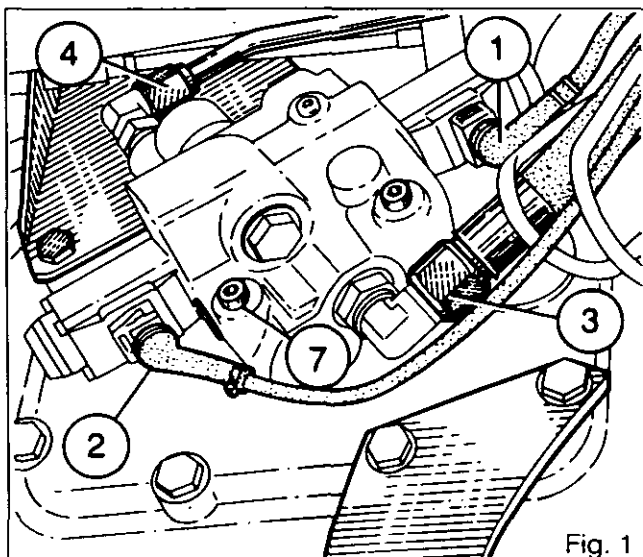
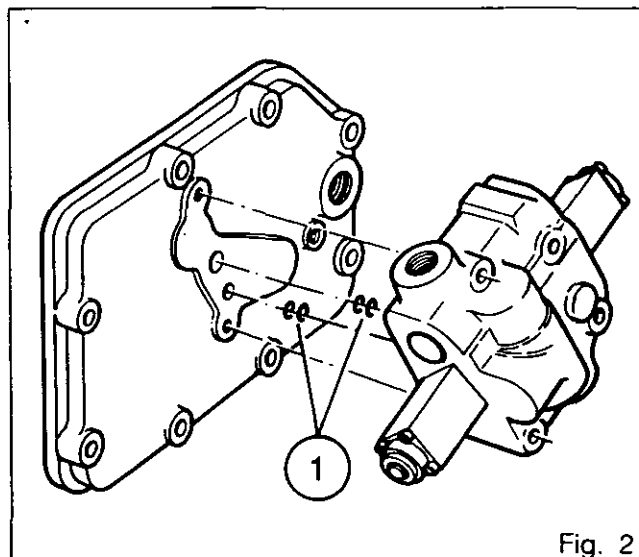

Fig. 1
Fig. 2
**A. Removal and refitting of lift control valve (Fig. 1)****Removal**
1. Mark and disconnect the harnesses of the lift (1) and lower (2) solenoid valves.
2. Disconnect and plug the supply hose (3) of the valve and the supply tube (4) to the lift cylinders.
3. Remove the screws (7).
5. Change the seals (1), refit the valve (Fig. 2).
6. Fit and tighten the screws (7) to a torque of 25-35 Nm.
7. Reconnect the hose (3) and the tube (4).
8. Reconnect the lift (1) and lower (2) solenoid valves (yellow connector).